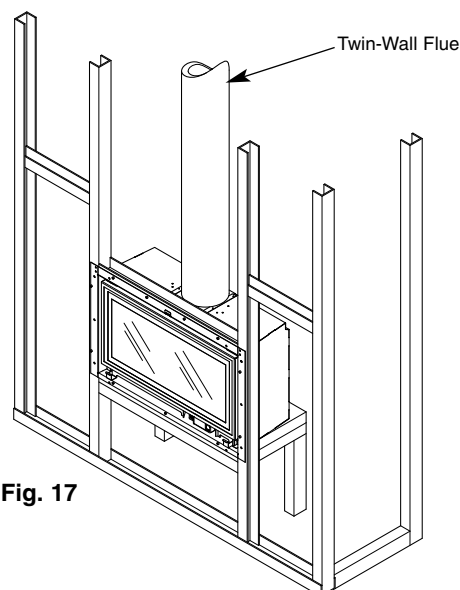

Fig. 17
5. Slide the fire box into position and fix through the holes in the flange into the chimney breast framework using self drilling screws (Fig. 17).
6. Locate the twin wall flue pipe on to the flue adapter on the top of the fire box. Drill three holes with a 3mm bit around the flue tube and secure using the three self tapping screws provided (Fig. 17).